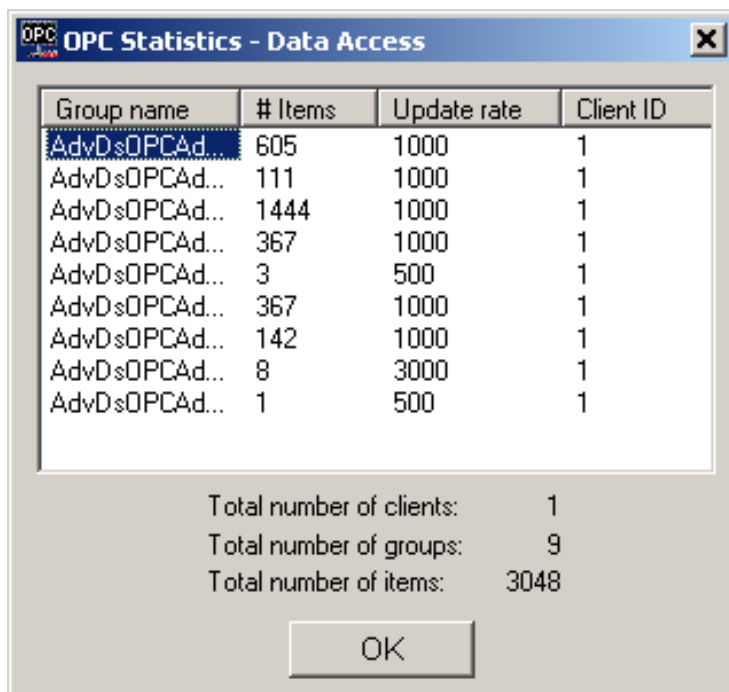

Figure 28. View OPC Server Statistics
2. To open the OPC Statistics - Data Access dialog box shown in Figure 28, select: